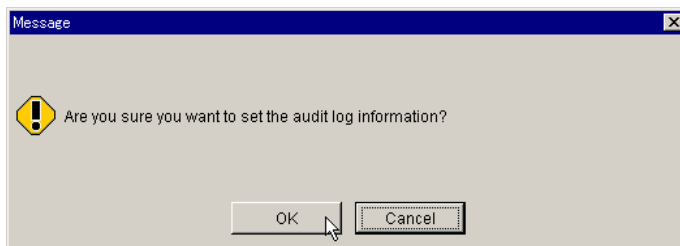

Figure 4.15 Audit Log Setting Confirmation Message
5. Select **Apply**, and then select **OK** on the confirmation message (see Figure 4.15).